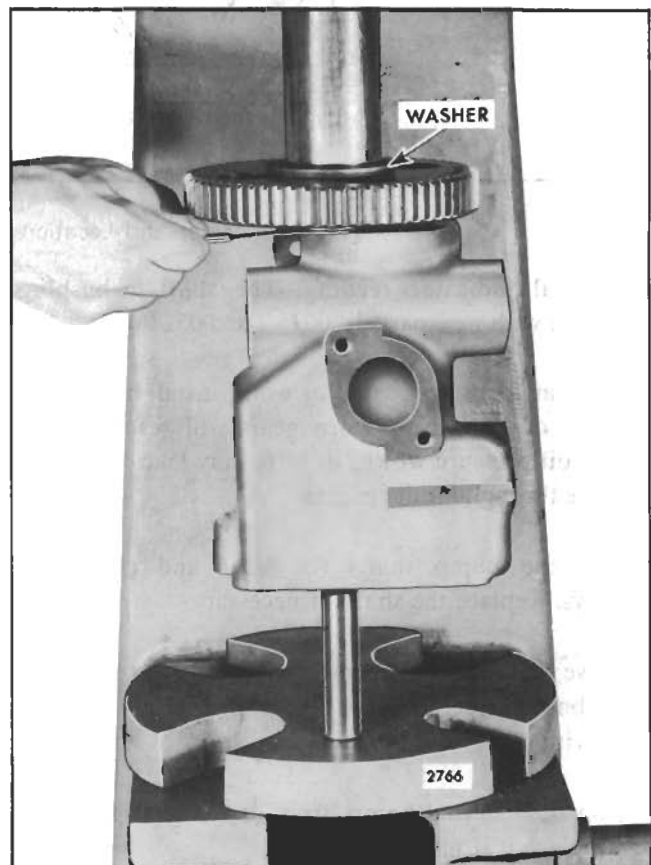

Fig. 9 - Installing Oil Pump Drive-Driven Gear on Shaft
6. Press the driven gear on the drive shaft until the clearance between the gear hub and the pump body is .010" (Fig. 9).